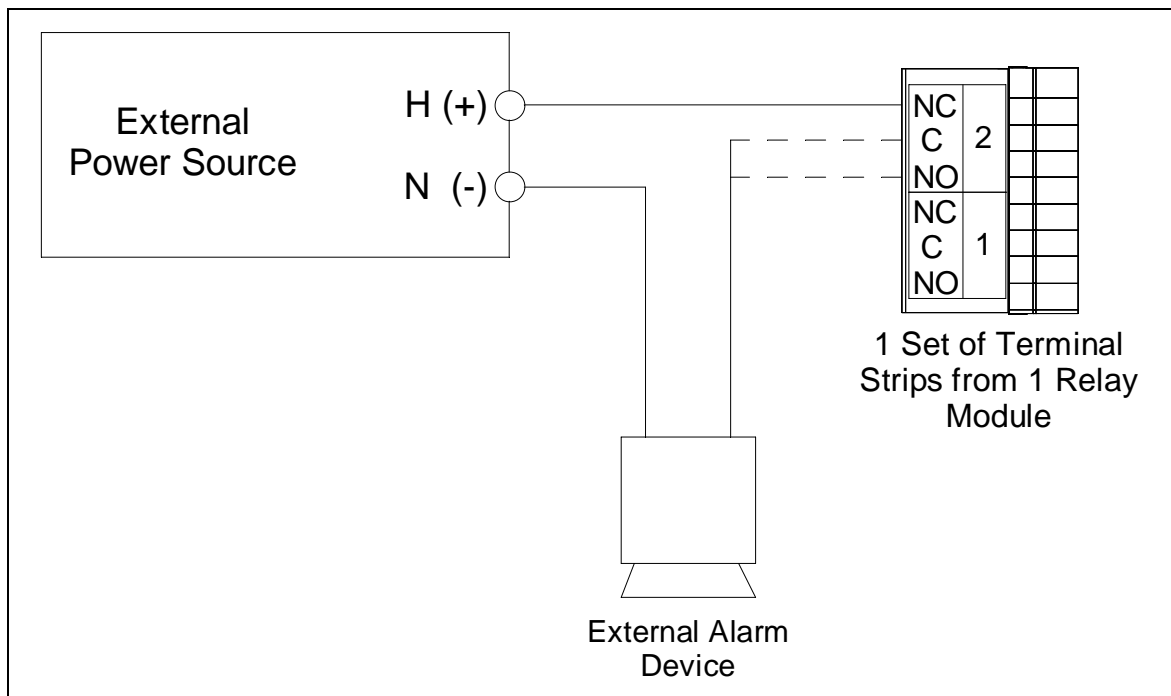

Figure 25: Wiring to the Card Relays
6. Connect the leads from the external alarm device and an external power source to the selected channel alarm or common/channel alarm relay contact terminals as shown in Figure 25.